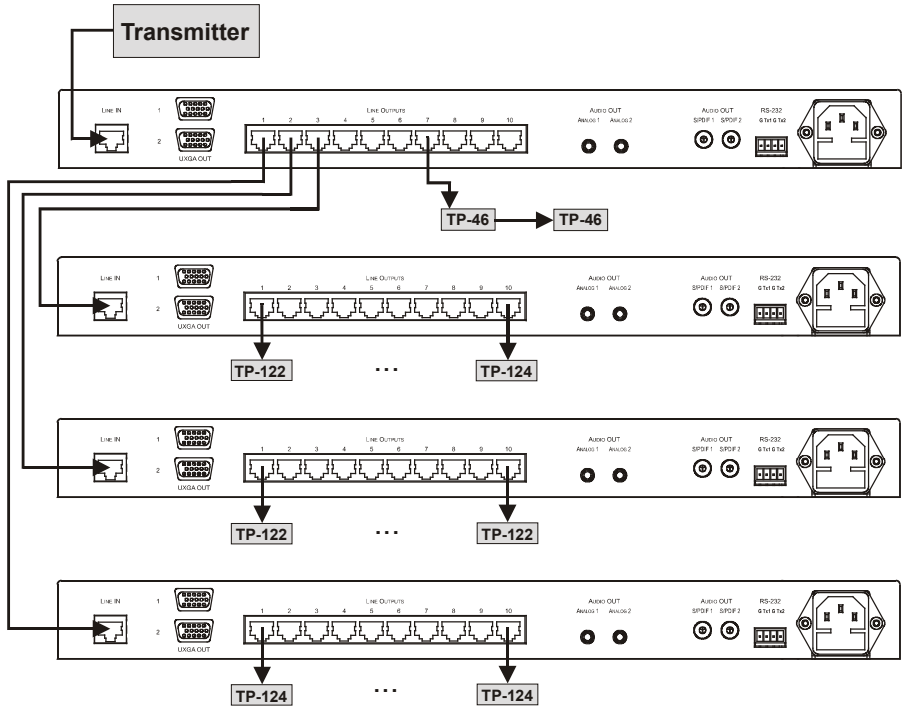

Figure 4: Distributing the Signal to 37 Receivers
In the example illustrated in Figure 4, a **TP-310A** unit is connected to three additional **TP-310A** units via the LINE OUTPUT RJ-45 connectors. Each of the three connected **TP-310A** units can distribute the signal to 10 receivers. The system, in total, distributes the signal to 37 receivers.
5. Connect the LINE OUTPUT RJ-45 connectors of each **TP-310A** unit, to the LINE IN RJ-45 connectors of the appropriate receivers, as illustrated in Figure 4.